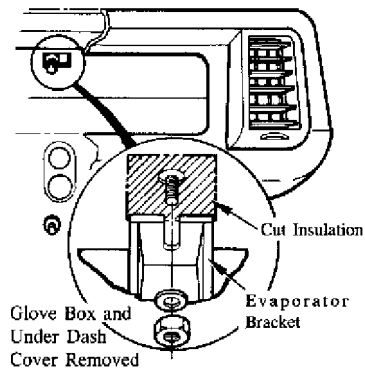

Fig. 1: Evaporator Bracket Installation
1. Cut the insulation in the area of the upper mounting stud for the evaporator. Cut the insulation as needed to allow the evaporator bracket to bolt directly to the dash frame (Fig. 1).